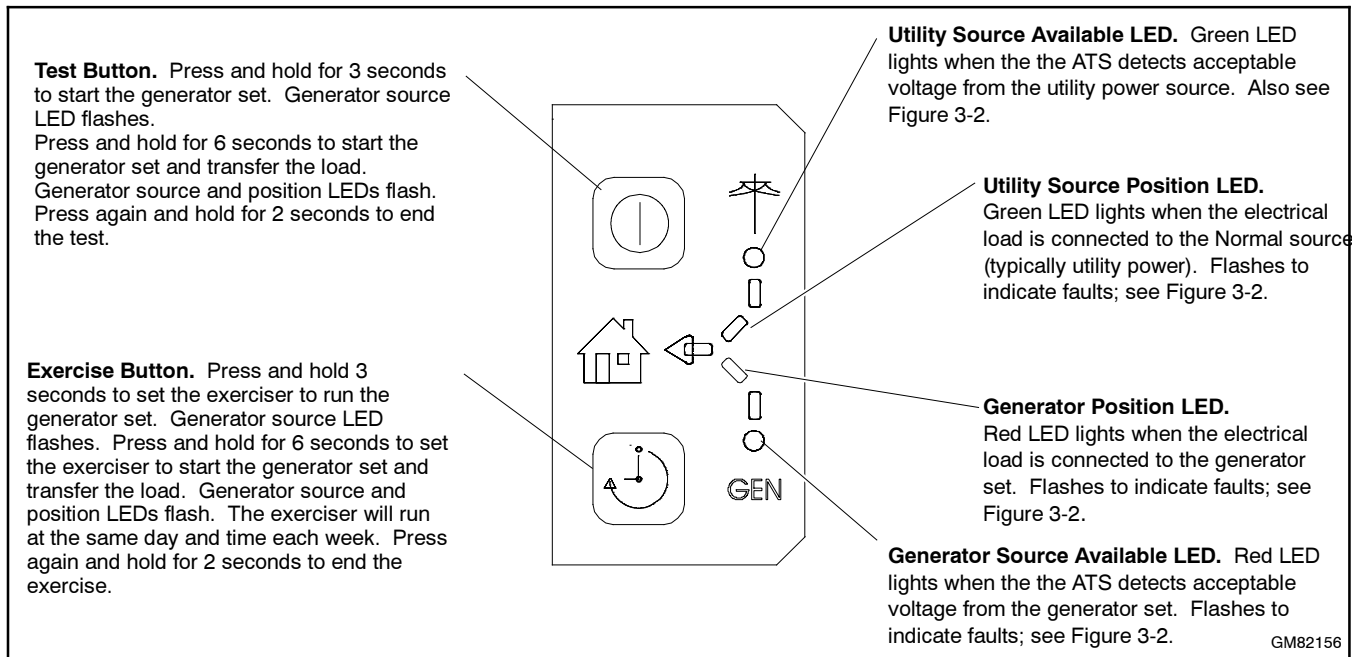

Figure 3-1 User Interface Panel
1. Check the controller LED indicators to verify that the Utility Source Available and Utility Source Position indicators are lit. See Figure 3-1.
Red and green LEDs on the transfer switch controls indicate which sources are available, show which source is connected to the load, and flash to indicate fault conditions. Pushbuttons allow you to start and stop the generator set and set the exercise timer. See Figure 3-1.
The controller's user interface panel is accessible through an opening in the transfer switch cover (the inner panel on NEMA type 3R enclosures). Figure 3-1 explains the operation of the controller pushbuttons and LED indicators.